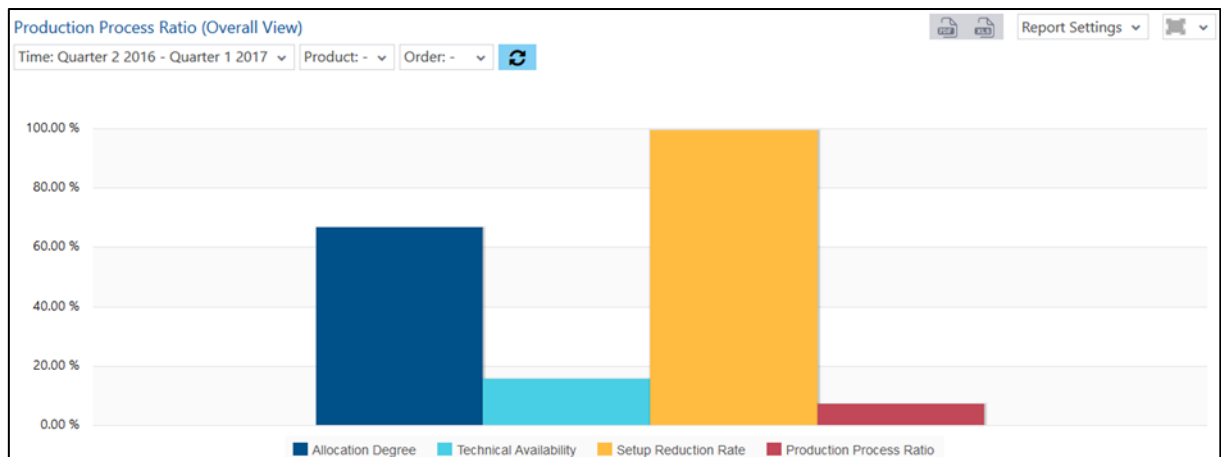

Fig. 141: Production process ratio (overall view) as a column chart
- Production process ratio (overall view) as a column chart (fig. 141):